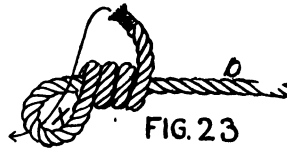

FIG. 23
**Stevedore Knot.** The stevedore knot like the figure eight, is used to prevent ropes from pulling through pulleys or holes. It is made in the same manner as the figure eight but instead of making one turn around the standing part *b*, three turns are made as shown in fig. 23. The end is then passed back through the loop as shown by the direction of the arrow in fig. 23. The standing part of the rope *b* is then drawn until the loop *x* is taut (fig. 24).